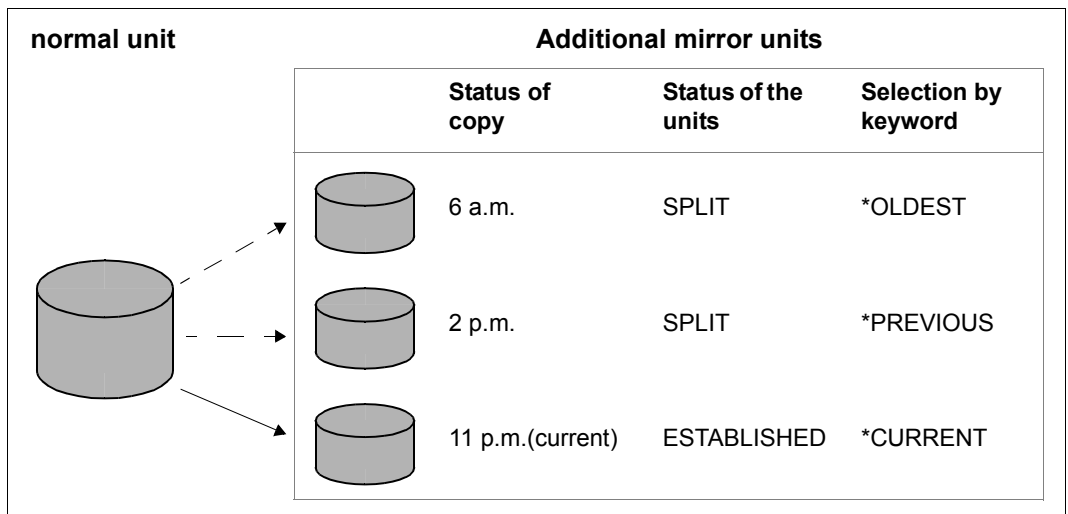

Figure 21: Example of multi BCV usage
- No more than two additional mirror units may have the `ESTABLISHED` status at any one time; the rest are split from the normal unit and have the `SPLIT` status (see figure 21).